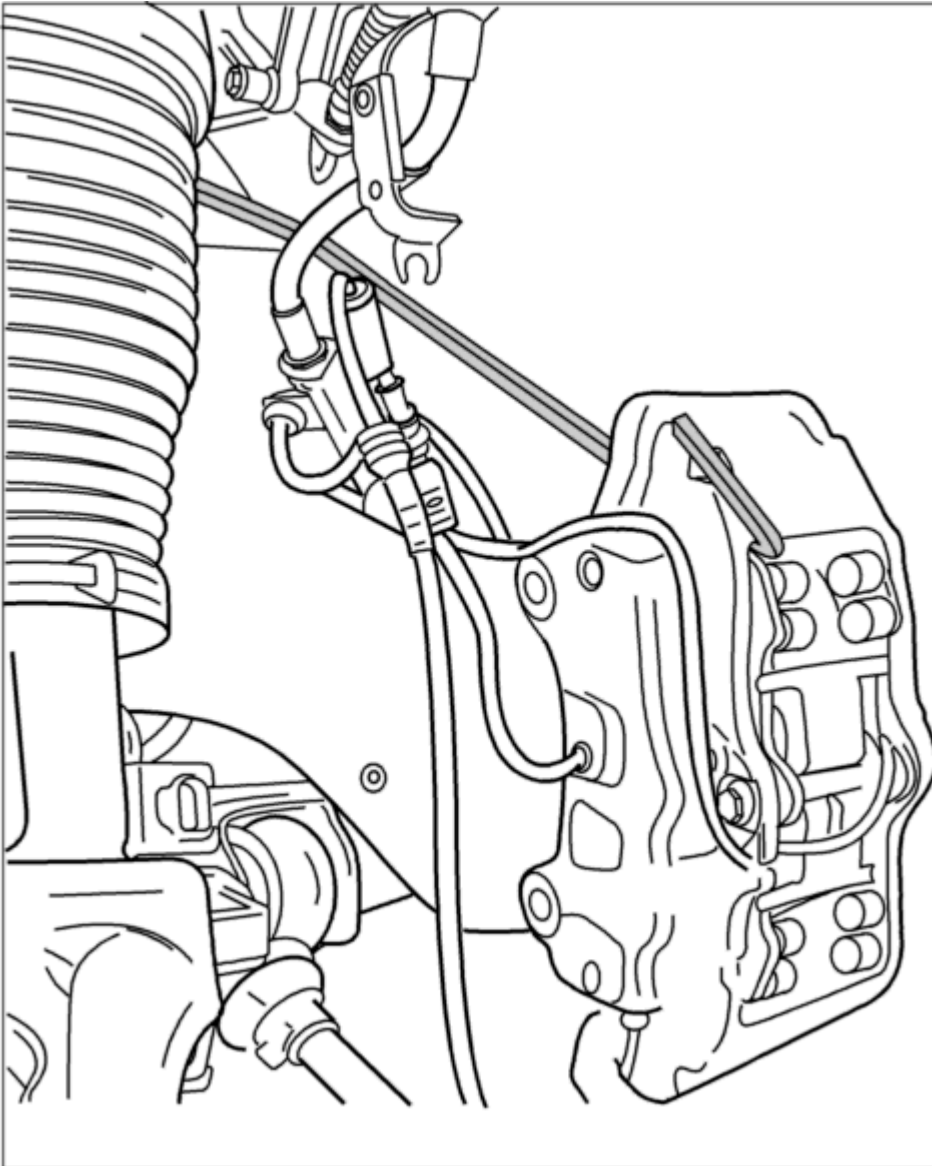

Fig. 92: Removing and support brake calliper
16. Remove brake calliper fastening screws and hang brake calliper in a suitable place in the wheel housing. See **Fig. 92.**